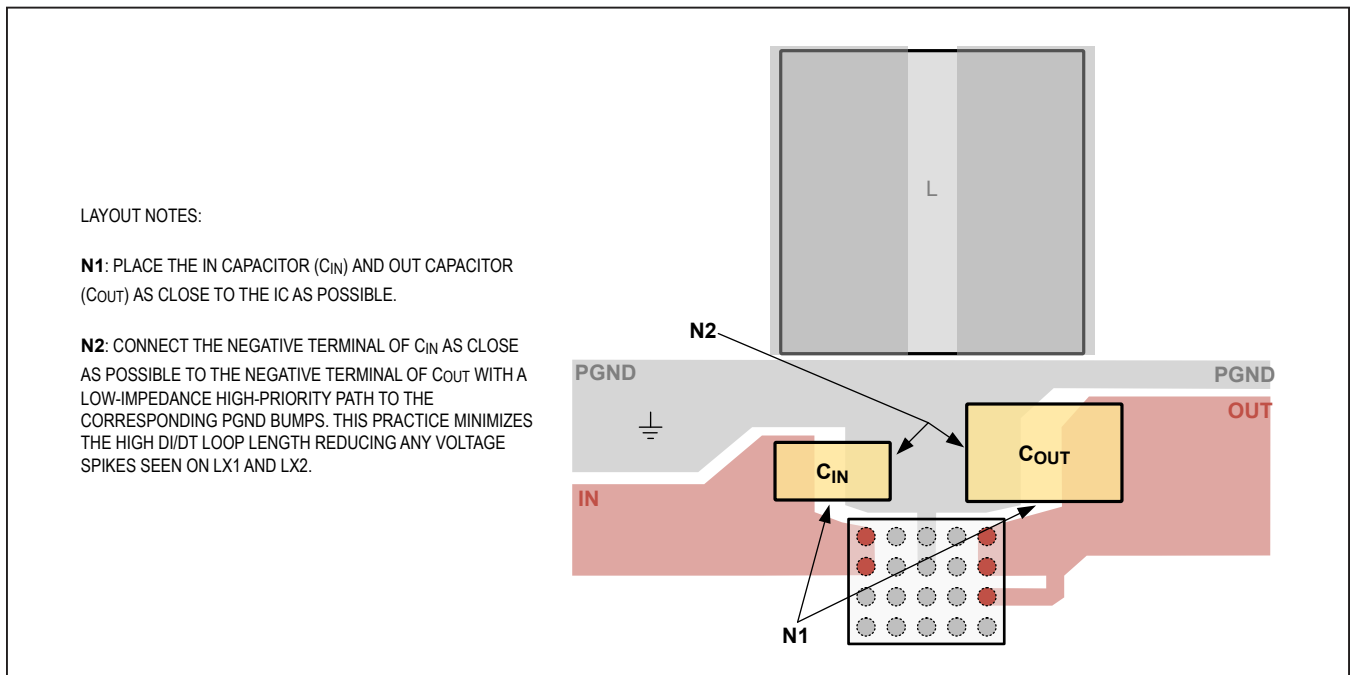

Figure 6. Recommended Capacitor Placement
- 1) Place the input capacitors (C_{IN}) and output capacitors (C_{OUT}) immediately next to the IN pin and OUT pin, respectively, of the IC. Since the IC operates at a high switching frequency, this placement is critical for minimizing parasitic inductance within the input and output current loops, which can cause high-voltage spikes and may damage the internal switching MOSFETs. See Figure 6 for an illustration.